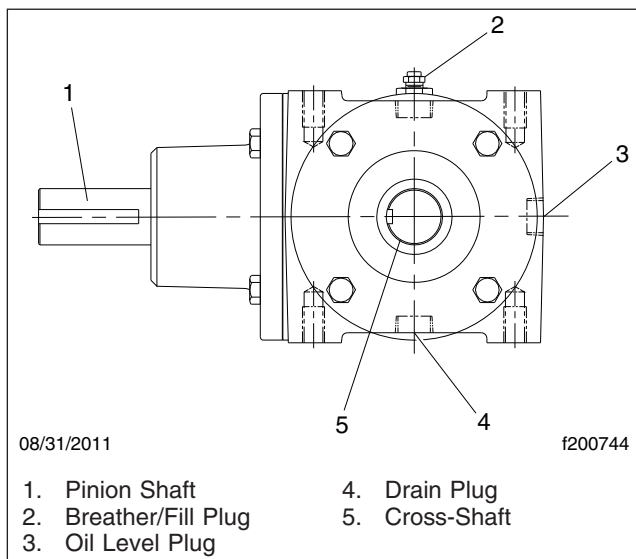

Fig. 4, Mechanical Fan Drive Gearbox
3. Remove the drain plug and breather/fill plug, shown in **Fig. 4**, to begin draining the oil.
4. Remove the oil level plug. See **Fig. 4**.